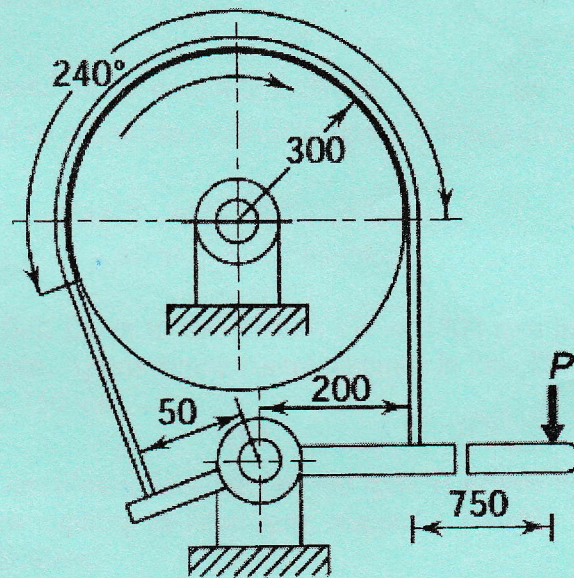

Figure 2
- b) A Differential Band Brake is shown in Figure 2. The width and the thickness of the steel band are 100 mm and 3 mm respectively and the maximum tensile stress in the band is  $50 \text{ N/mm}^2$ . The coefficient of friction between the friction lining and the brake drum is 0.25. Calculate: (i) the tensions in the band; (ii) the actuating force; (iii) the torque capacity of the brake. 15.K3.CO6